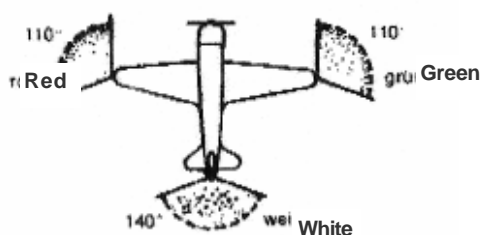

Fig. 2.3.12.1
- Scribe the shape of the position light on the wing tip. Place the position light and align it exactly with the contour of the wing tip. The beam angle must correspond to figure 2.3.12.1. Make sure that the red light is installed on the left side and the green light on the right side.